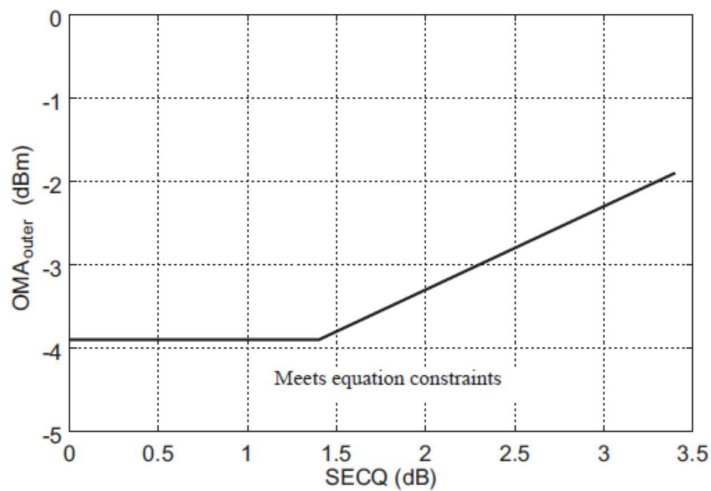

Figure 4. Illustration of Receiver Sensitivity Mask for 100G-DR1
- Receiver sensitivity (OMA_{outer}), each lane (max) is informative and is defined for a transmitter with a value of SECQ up to 3.4 dB. It should meet Equation (1), which is illustrated in Figure 4.